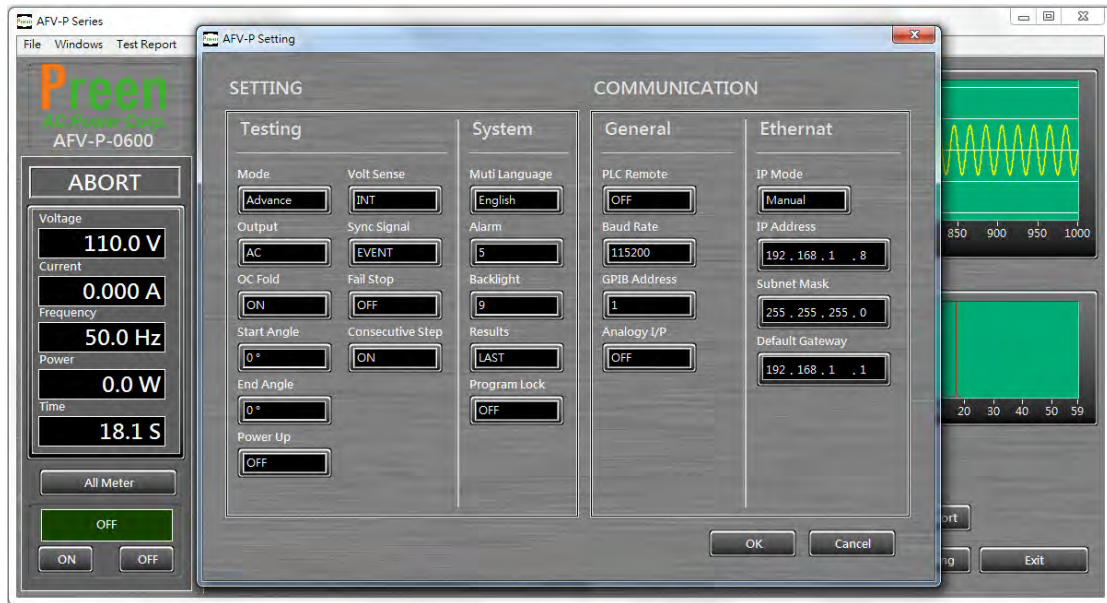

Figure 7.6 Setting page of the remote control software
- 14) Click to enter into the setting page of the remote control software (see Figure 7.6). The description for the items at the setting page of the remote control